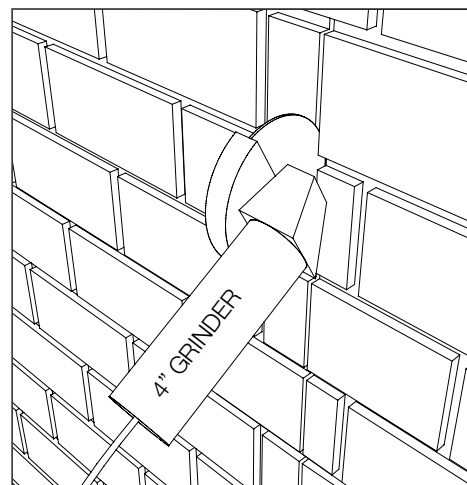

Fig 2.0
- For masonry walls using an angle grinder and masonry cutting disc, cut a 25mm deep slot from the cable leg to the eventual location of the transformer, see Fig 2.0